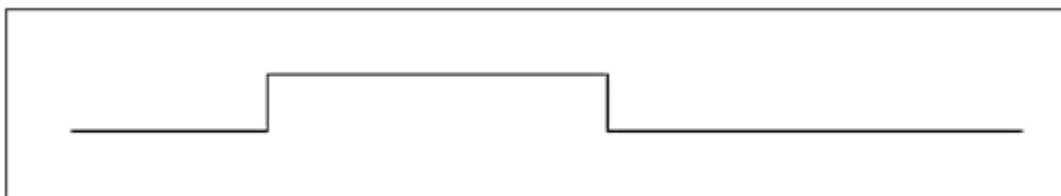

Figure 2: Required signal for Arduino.
The signal required for the Arduino program is shown in figure 2:
1. Obtain the required signal for Arduino shown in figure 2 using at least two different logic gates (explain using waveforms).